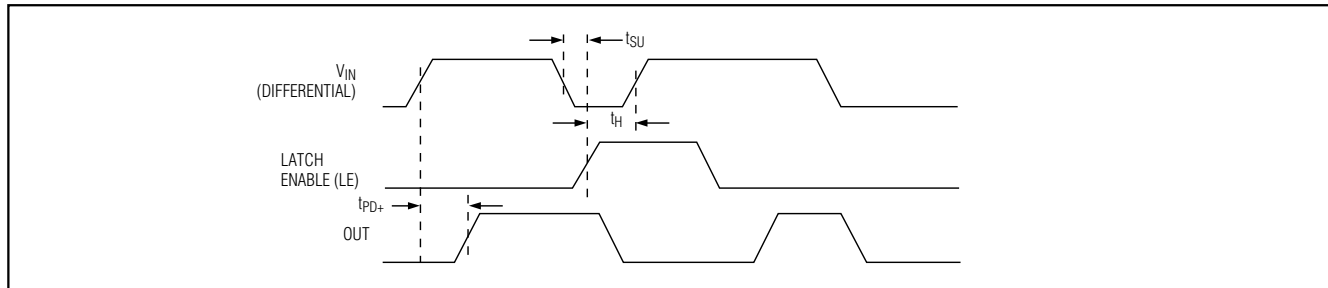

Figure 1. Timing Diagram
- Note 8:** Latch times are guaranteed by design. Latch setup time ( $t_{SU}$ ) is the interval in which the input signal must be stable prior to asserting the latch signal. The hold time ( $t_H$ ) is the interval after the latch is asserted in which the input signal must remain stable. Latch propagation delay ( $t_{LPD}$ ) is the delay time for the output to respond when the latch enable pin is deasserted (see Figure 1).
The MAX9011/MAX9013 provide a TTL-compatible latch function that holds the comparator output state (Figure 1). With LE driven to a TTL low or grounded, the latch is transparent and the output state is determined by the input differential voltage. When LE is driven to a TTL high, the existing output state is latched, and the input differential voltage has no further effect on the output state.